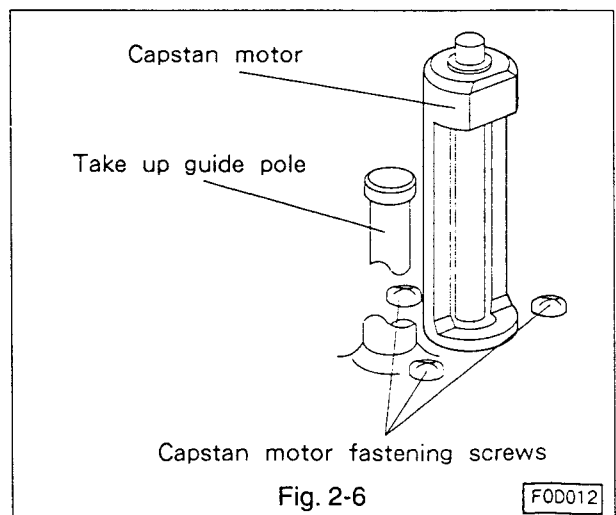

Fig. 2-6
- Remove three fastening screws shown in Fig. 2-6 and remove the capstan motor.
- Fasten the motor with three fastening screws.(Refer to Fig. 2-6.)